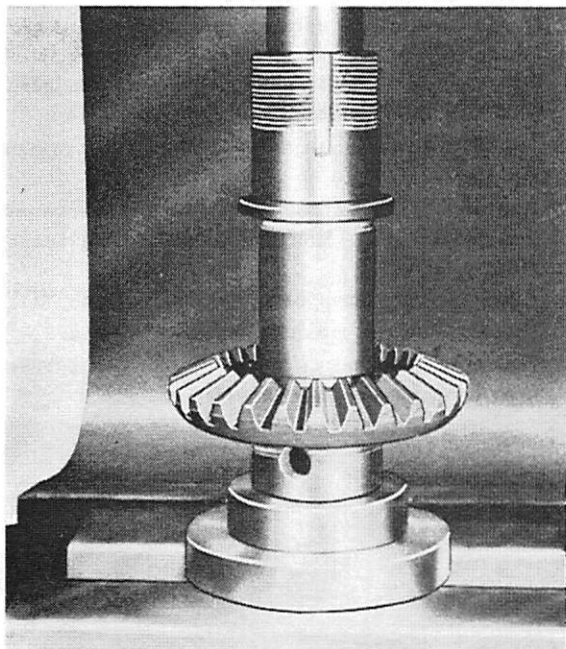

Figure 8. Pressing Propeller Gear from Propeller Shaft
4. Press on threaded end of propeller shaft and press off the sleeve, spacer and gear. (Figure 8) Care should be taken not to mar shaft. (Note: Some propeller shafts do not have shoulder on bearing end. Press out propeller shaft through rear end of gear, on smooth end of shaft, using 2 blocks of metal with press.)